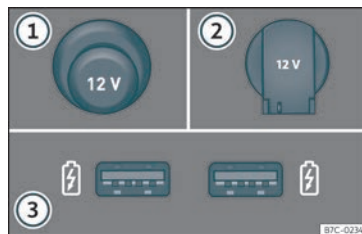

Fig. 120 Vehicle 12 volt socket.
12 volt power socket »» Fig. 120:
- Remove the cover from the socket, located on the centre console »» Fig. 120 ①.
- Lift the power socket cover »» Fig. 120 ②.
These USB ports are located at the rear of the console, between the front seats »» Fig. 120 ③. These connectors can work at a maximum power of up to 10.5 W per port.